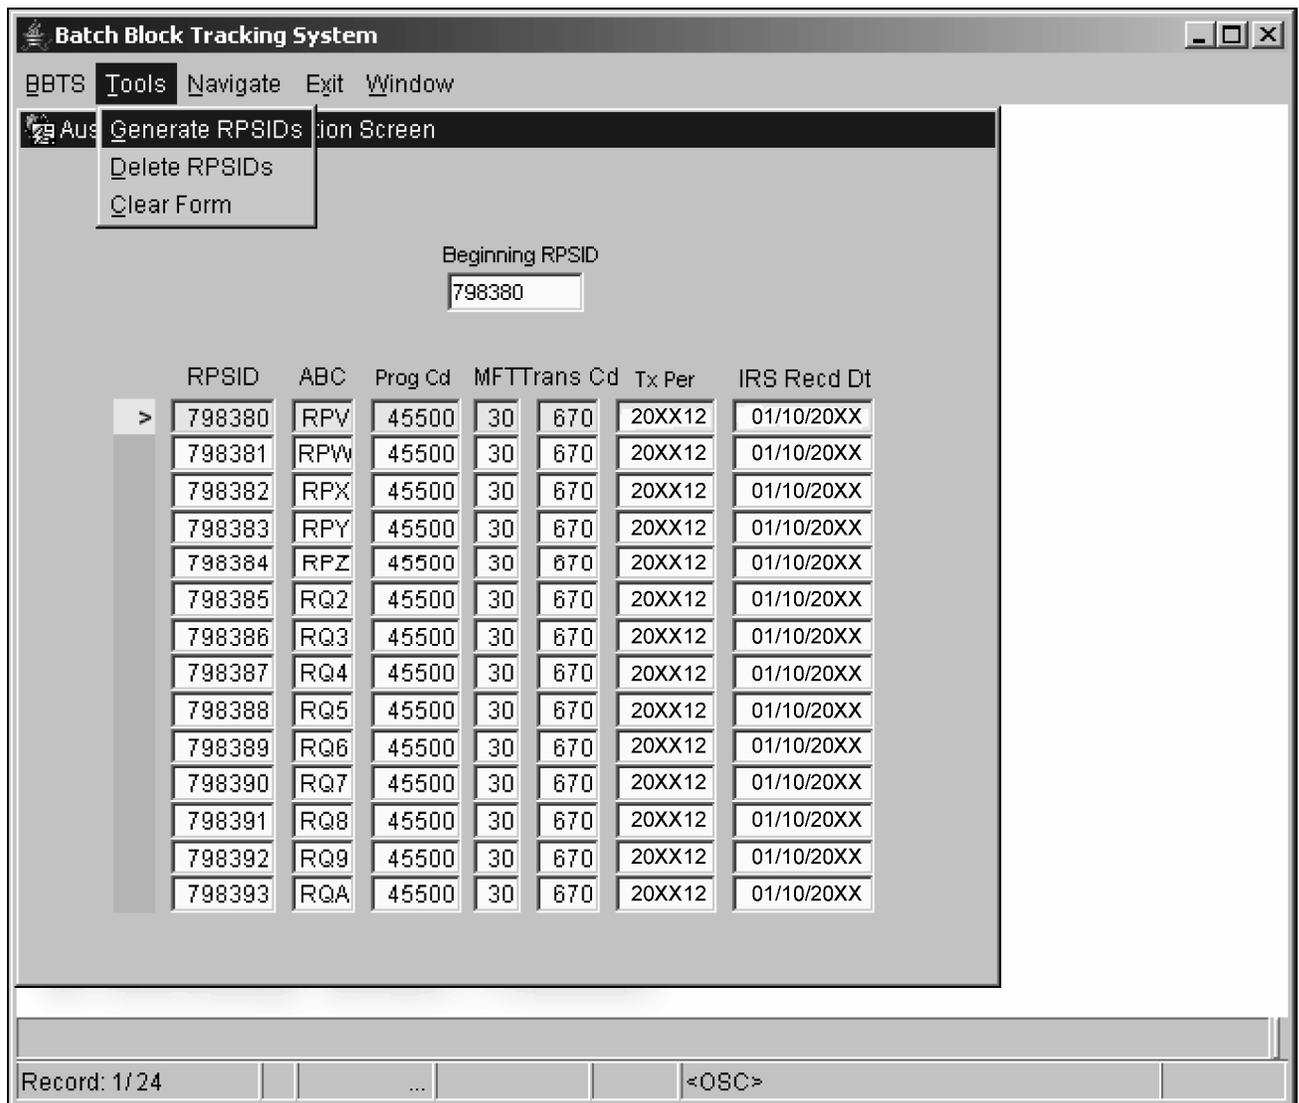

Figure 3.10.5-61 Navigating to the Generate RPSIDs Screen
(20) **To Delete RPSIDs** that have been created under the incorrect Program Number, MFT, Transaction Code or a combination of items, use the following instructions: **See Figure 3.10.5-62 through Figure 3.10.5-64**